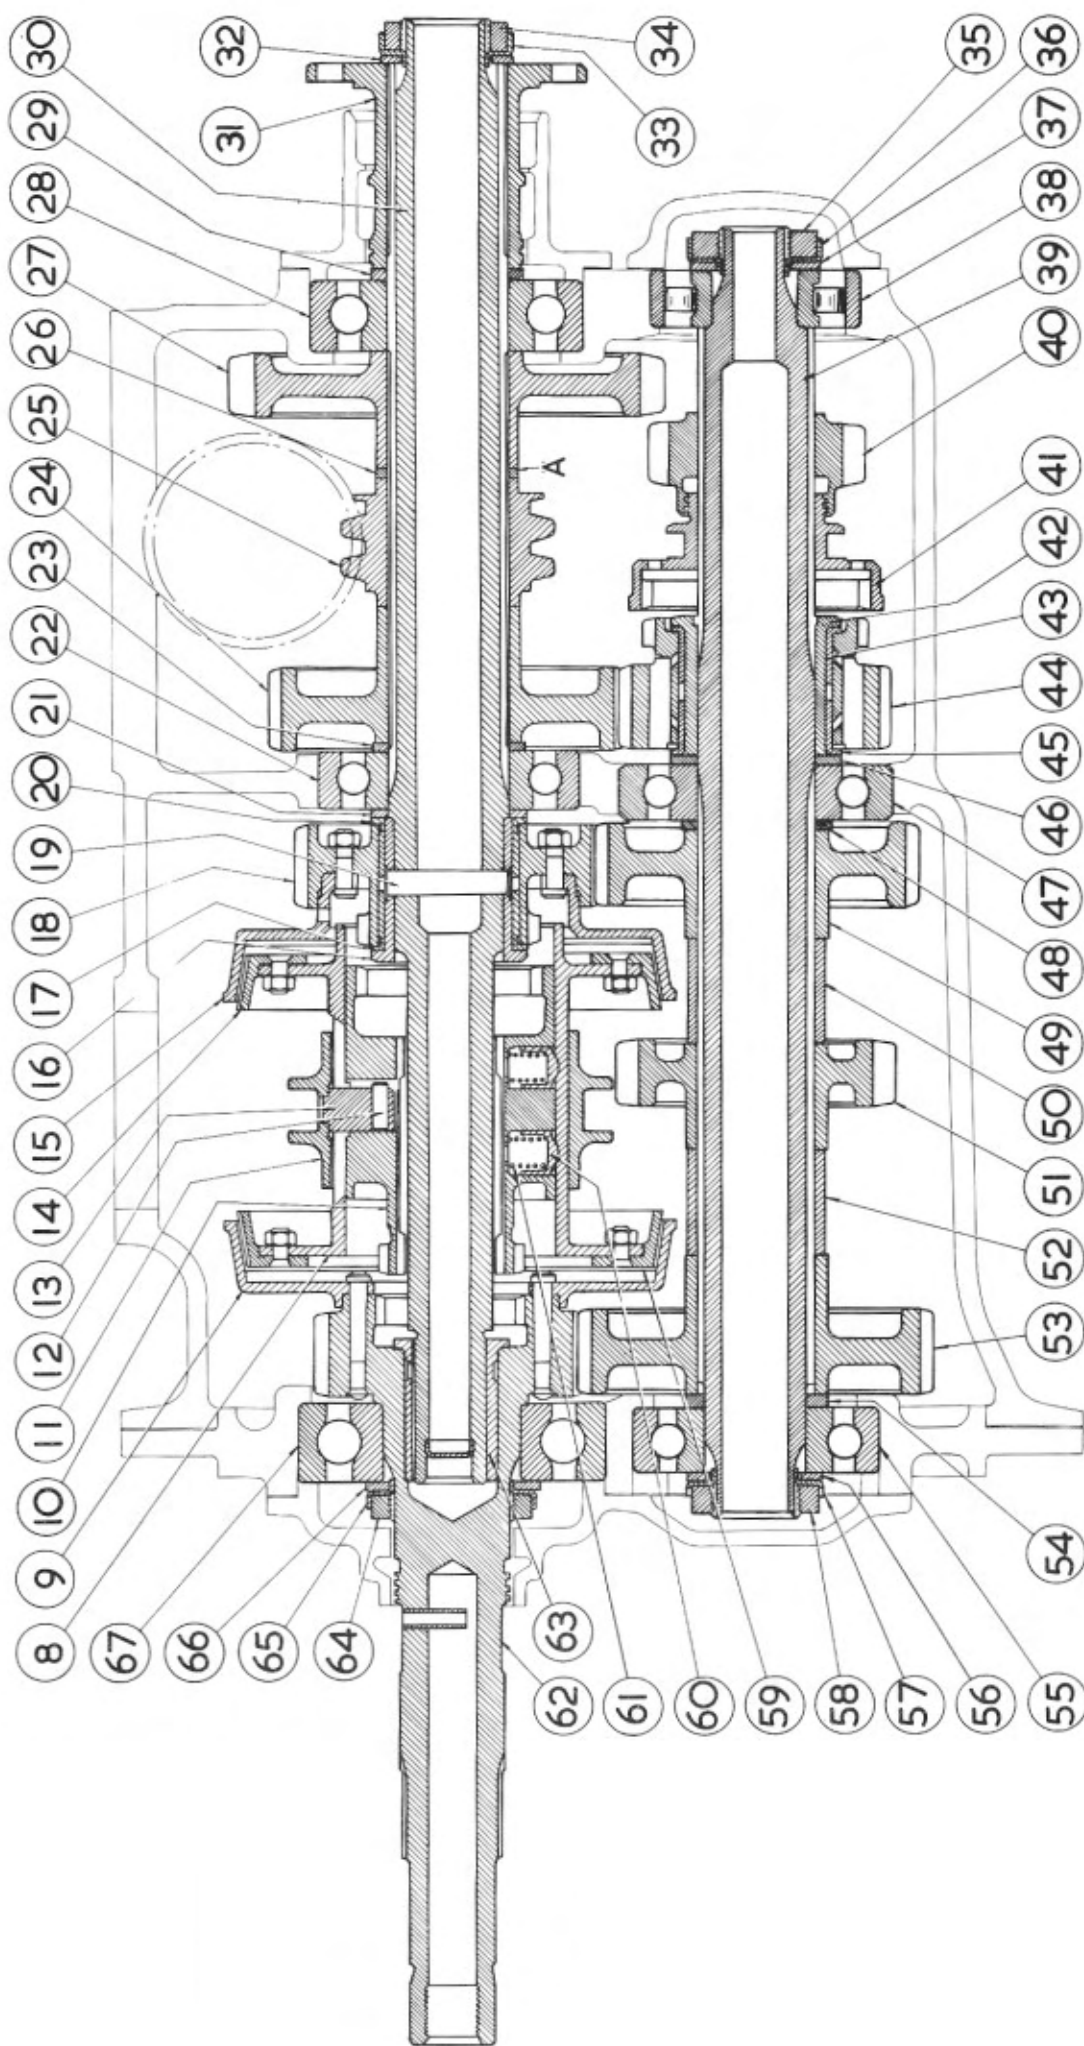
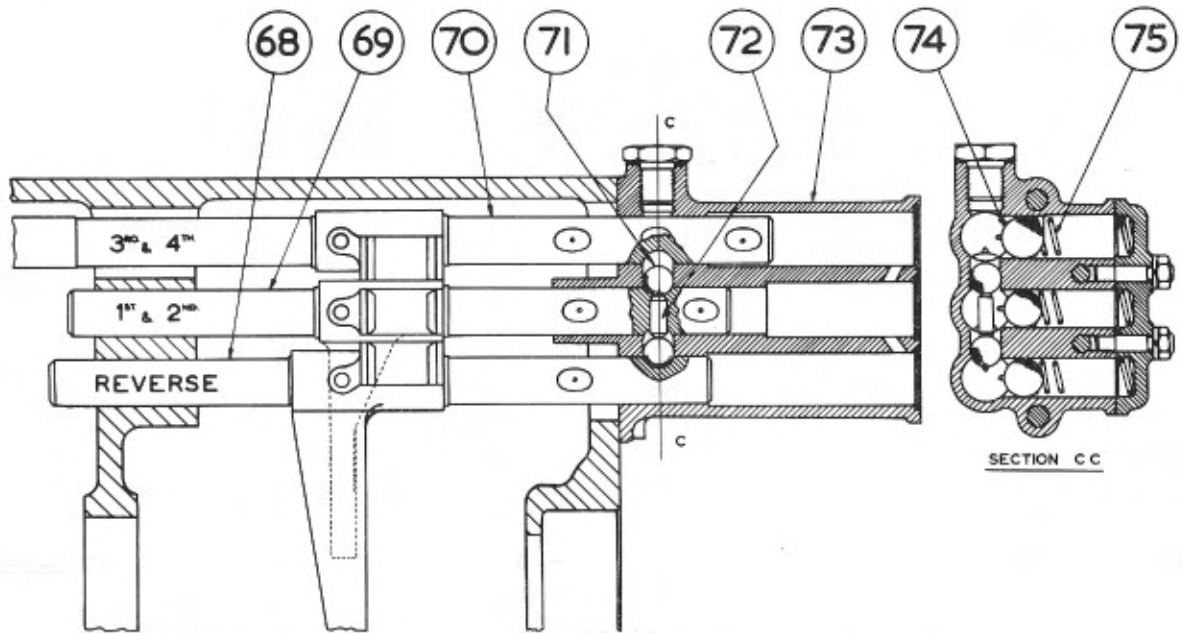

FIG. 2. SECTION - 1ST, 2ND AND 3RD MOTION SHAFTS.
FIG. 3. SECTION - SELECTOR SHAFTS & INTERLOCK MECHANISM.
- a) Place a circular lever (about 14" long x 7/16" dia.) through the aperture at the top of the front end of the gearbox, enter the lever in the stirrup groove of the 3rd and 4th speed actuating sleeve (11 Fig.2) and push the sleeve towards the rear of the gearbox to engage the 3rd speed gear.
- (xv) Remove the retaining nut, 34 Fig.2 (R.H.thread) from the rear end of the 3rd motion shaft, collect the clamping washer (32) and withdraw the coupling flange (31) from the shaft.
- (xvi) Remove the gearbox support bracket from the rear of the box and the cover for the 3rd motion shaft complete with oil drain pipe (if the latter is fitted). Remove the adjusting washer (29) and TIE it to the coupling flange.
- (xvii) Remove the cover (secured by 11 nuts) from the front end of the gearbox, collect the thin metal oil baffle adjacent to the ball bearing of the 1st motion shaft and the aluminium distance piece adjacent to the ball bearing at the front end of the 2nd motion shaft. Remove the nut, 58 (R.H.thread) from the front end of the 2nd motion shaft and collect the clamping washer (56)
- (xviii) Remove the nut, 64 (L.H.thread) from the 1st motion shaft and collect the clamping washer (66).
- (xix) Remove the spring loaded cover (secured by 2 nuts) from the bronze plunger housing at rear of gearbox and the three springs(75 Fig.3). Remove the plunger housing (73) as follows:-
Notation List for Fig.2.
- (i) To dismantle, remove the four 2-BA nuts and bolts securing the two halves of the actuating sleeve (11 Fig.2) and remove the two operating cams (13) from the sliding piece (10) and collect the two pins (12) if free.
- (ii) Push the sliding piece out of the outer member (8), taking care not to lose any of the six or eight plungers and springs. This may be avoided by wrapping a piece of cloth around the outer member prior to removal of the sliding piece.
- (iv) If the circular portion at the upper end of the two operating cams (13) where they locate in the actuating sleeve, are worn, new cams should be fitted.
When re-assembling, discard all old tab locking washers, aluminium washers, Vellumoid and red fibre (or "Oakenstrong") joints. If the 1st speed gears are noisy due to wear of the teeth beneath the hardened surface, opportunity should be taken to fit a new driver and driven gear (40 & 27 Fig.2), otherwise the small particles of metal which disintegrate from worn gears will be carried around in the oil and may cause damage to the teeth of other gears and the bearings.
NOTE: When re-assembling the parts to the 2nd motion shaft, the gears must be placed the correct way round and the various washers positioned as shown in Fig.2.
NOTE: When re-assembling the parts to the 3rd motion shaft, the gears must be placed the correct way round (this does not apply to the worm gear 25) and the various washers positioned as shown in Fig.2.
- (i) Hold the front end of the shaft horizontally in a vice. Fit two new bronze bushes (17 & 20) to the 3rd speed constant mesh gear (18) as described in sub-para.(i) for the 2nd motion shaft.
- (ii) If the adjusting washer (23) is worn, measure the thickness on the unworn portion and fit a new washer of the same thickness.
- (iii) With the gear (18) and the thrust washer (21) in position, fit the remaining ball bearings, gears, washers and the driving flange (31) to the shaft including the clamping washer (32); omitting the lockwasher (33) at this stage.
- (iv) Tighten up the retaining nut (34) and again check the constant mesh gear (18) for freedom, if not free, this will be due to excess of "nip" on the rear face of the driving flange (31) causing the thrust washer (21) to exert a slight load on the bushes. Remove the adjusting washer (26) and fit a washer of a thickness that will allow the end face of the driving flange to stand out .003" beyond the ends of the splines of the shaft to give the required nip when the retaining nut is fully tightened up. Conversely, if after tightening up the retaining nut, the 1st speed driven gear (27) has end float, however small, proceed as follows:-
- a) Select a feeler gauge which can just be inserted between the washer (26) and the gear (27) i.e. at point 'A' Fig.2.
- (v) Remove all parts from the shaft up to the washer (23); greasing the latter to keep it in position against the ball bearing.
- (i) Fit a new outer roller race (38) to the rear end of the gearbox.
- (ii) Place the centre selector shaft (69 Fig.3) in the gearbox. With the constant mesh gear (49 Fig.2) in position on the 2nd motion shaft, enter the shaft into the gearbox, simultaneously engaging the fork of the selector shaft with the corresponding groove in the 2nd speed sliding gear (41), taking care to enter the roller bearing (38) SQUARELY into its outer race.
- (iii) Enter the reverse motion shaft into position, place the reverse selector shaft (68) in the gearbox and manipulate the fork of it into the groove in the reverse motion shaft and then slide the selector shaft into its bore in the gearbox.
- (v) Place the remaining selector shaft (70) in position.
- (xi) Fit the ball bearing (67) to the diaphragm and tap the 1st motion shaft into this bearing.
- (xiii) With the floating bush (63) in position in the 1st motion shaft, hold the constant mesh gear (53) against the diaphragm with the left hand and enter the diaphragm into position on the gearbox simultaneously guiding the gear on to the 2nd motion shaft.
- (xv) Next, assemble to the 2nd motion shaft, the washer (54), the ball bearing (55), the clamping washer (56), the lockwasher (57) and lightly tighten up the retaining nut.
- (xvi) Assemble to the 1st motion shaft, the clamping washer (66), the lockwasher (65) and also lightly tighten up the retaining nut.
- a) Push the centre selector shaft rearwards; grease and place the pin (72 Fig.3) in the rear end of it.
- b) Apply a soft type of grease to the horizontal passage in the bronze plunger housing (73) in which the two .375" dia. steel balls are housed and place the latter in position.
- (xix) Assemble the washer (29), the coupling flange (31), the clamping washer (32) and the lockwasher (33) to the rear end of the 3rd motion shaft.